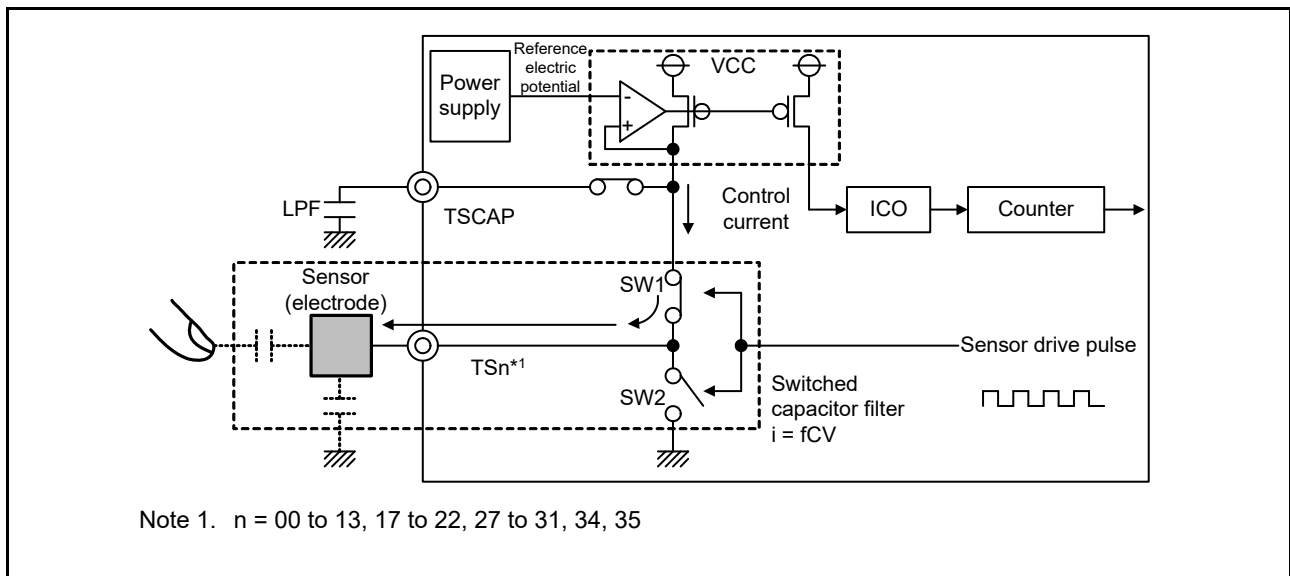

Figure 41.5 Charging operation
Figure 41.5 to Figure 41.7 explain the electrostatic capacitance measurement operation principles of the CTSU current frequency conversion method. The operation is as follows:
1. The electrostatic capacitance of the electrode is charged by turning SW1 on and SW2 off (Figure 41.5).